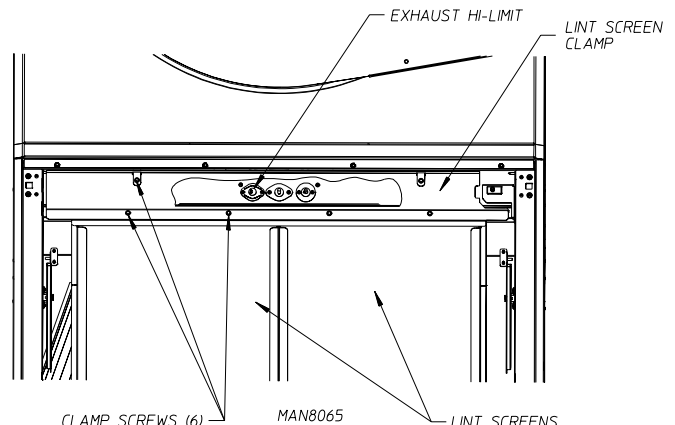

FIGURE 6
NOTE: To remove the lint screens from the dryer, open the lint door. Located just above the lint screen is a clamp retained by six screws (refer to figure 6). Use a 5/16" (8 mm) wrench to remove the six screws and the clamp. The lint screens are mounted in a track. Slide the lint screens out of the track.
To reset the exhaust hi-limit, disconnect the power and open the lint door. Remove the lint screen clamp (6) screws (refer to figure 6, **page 29**). Above the lint trap and in the duct below the tumbler are three sensors. The flat one on the far left is the hi-limit Thermostat. Remove the two screws securing the thermostat and remove it. Push the red button in the center to reset. Replace the thermostat. Replace the lint screen clamp. Close the lint door. Restore the power.